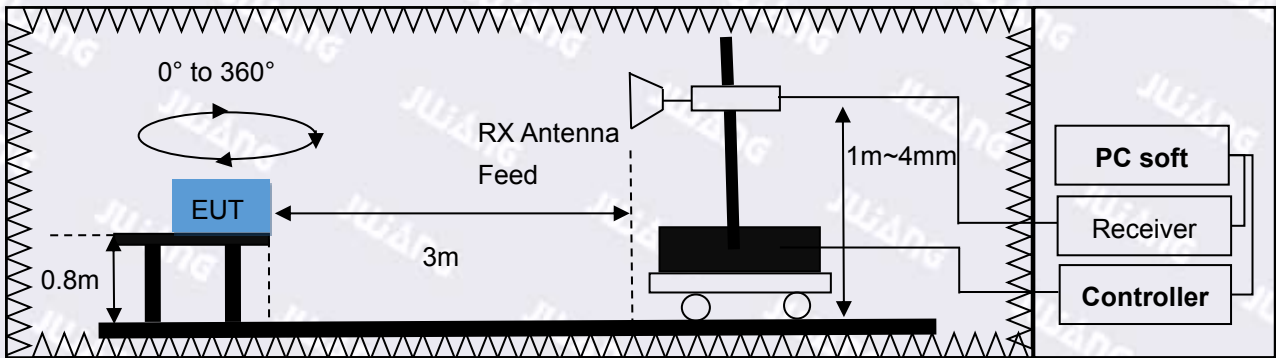
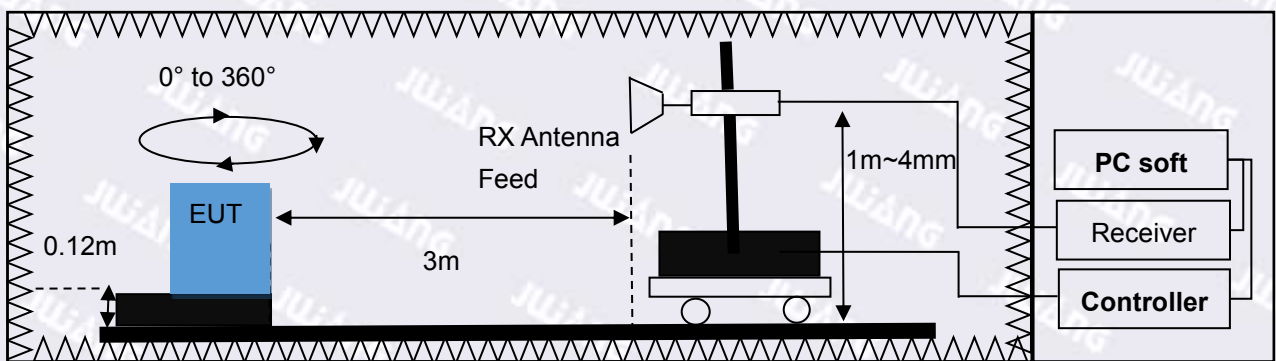

Figure 5-4 Test set-up of radiated disturbance(1000MHz-6000MHz)
Figure 5-5 Test set-up of radiated disturbance(1000MHz-6000MHz)
- b) The EUT was placed on the top of a table 0.8 meters above the ground at 3-meter SAC as figure 5-4 or 0.12m above the ground at 3-meter SAC as figure 5-5.